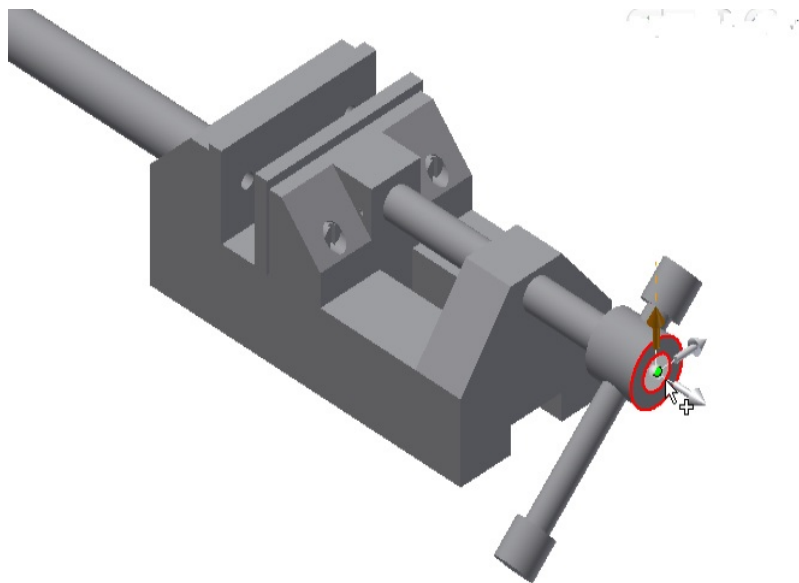

Figure 13-20 *Defining the tweak direction on the head of the Clamp Screw*
2. Move the cursor close to the cylindrical face of the head of the Clamp Screw, see Figure 13-20.
You will notice that the head of the Clamp Screw is displayed with a red outline and a triad is displayed on the component. Also, the direction arrow of the triad is oriented along the Z axis of the world coordinate system and displayed in dark brown if the **World** option is selected from the **Orientation** drop-down list, refer to Figure 13-20.